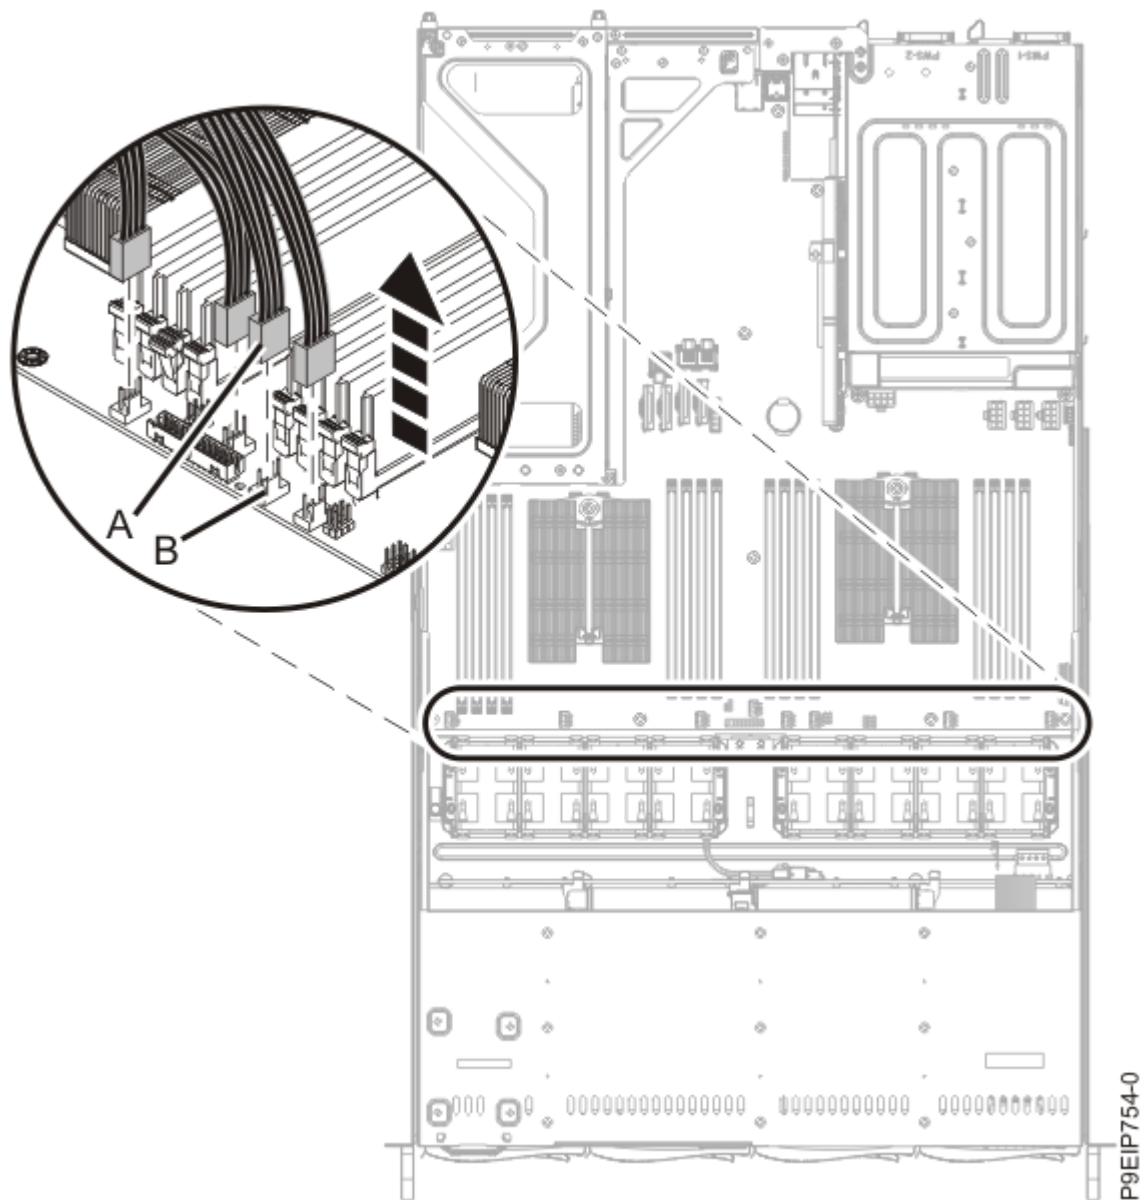

Figure 14. Disconnecting the fan cable
5. To disconnect a fan cable, release the connector clip **(B)** and carefully pull up the connector **(A)** from the system backplane, as shown in Figure 14 on page 19.